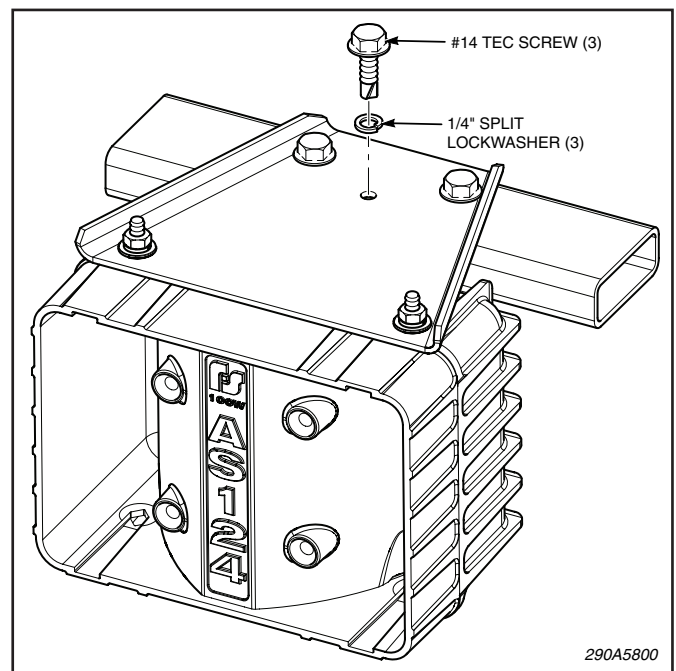

Figure 2.
4. See figure 2. Secure the bracket to the vehicle using three #14 Tec screws and split lockwashers.